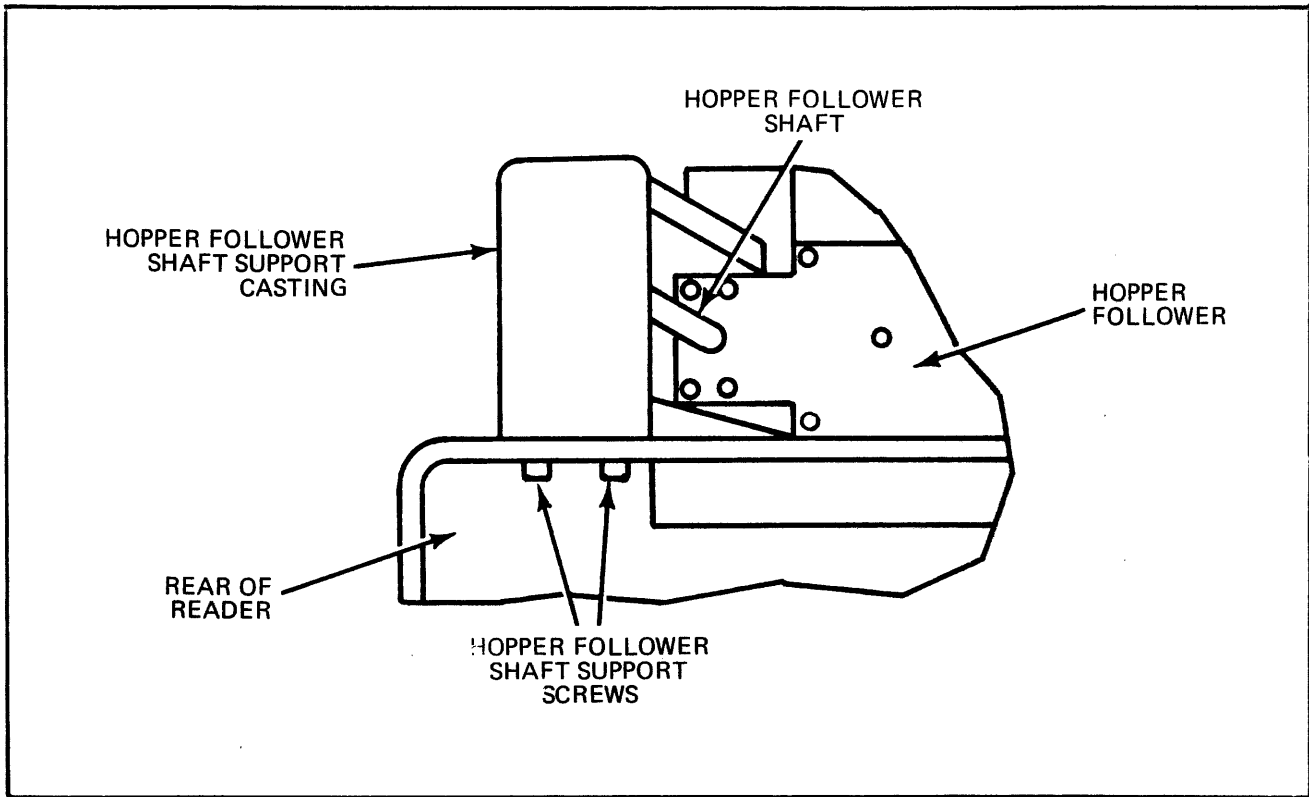

Figure 9-15. Hopper Follower Assembly Removal
- 3. Remove two screws holding hopper follower shaft support casting, Figure 9-15.